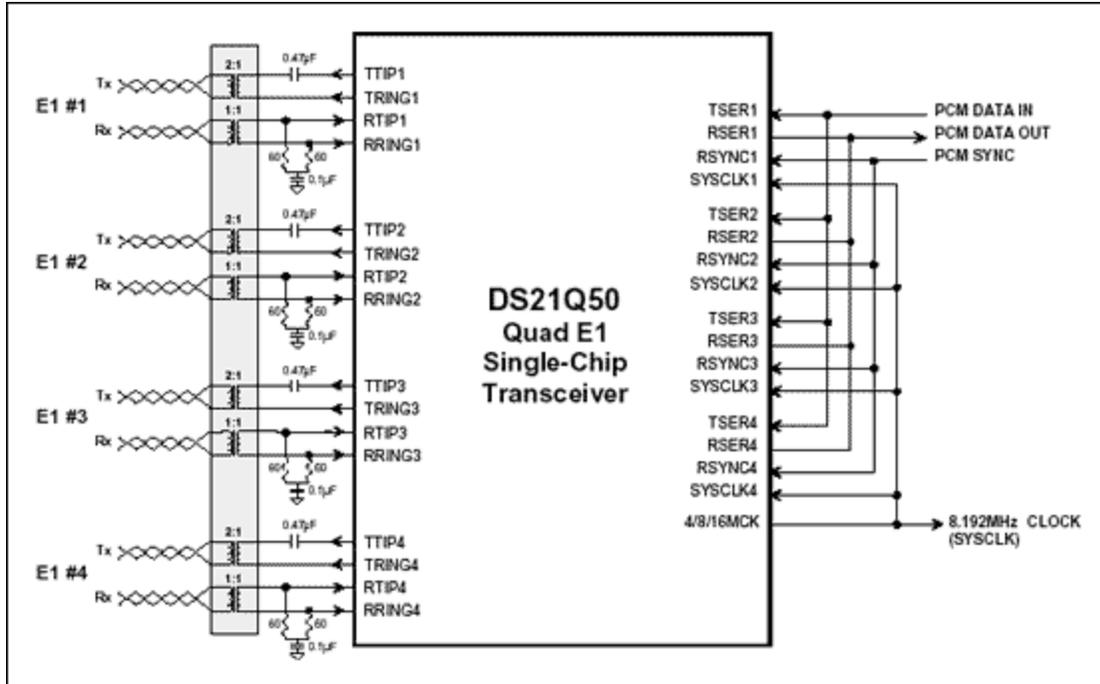

Figure 1. Four port E1 transceiver using DS21Q50.
**Figure 1** shows an example application of the DS21Q50 in a 4-port design. In order to ensure data integrity in IBO mode, all clock and sync signals should be phase-aligned. The receive elastic store for each of the four transceivers must be enabled, and they should all receive the same frame-reference pulse (RSYNC) and 8.192MHz system clock (SYSCLK). In this case, the phase-locked frame pulse is provided by the system backplane, and the 8.192MHz clock is provided by the 21Q50's system-clock synthesizer. Note that the 8.192MHz clock can be created internally from any of the four E1 line recovered clocks. In IBO mode, the DS21Q50 can create the transmit clock (TCLK) for each E1 formatter by dividing down the applied SYSCLK.